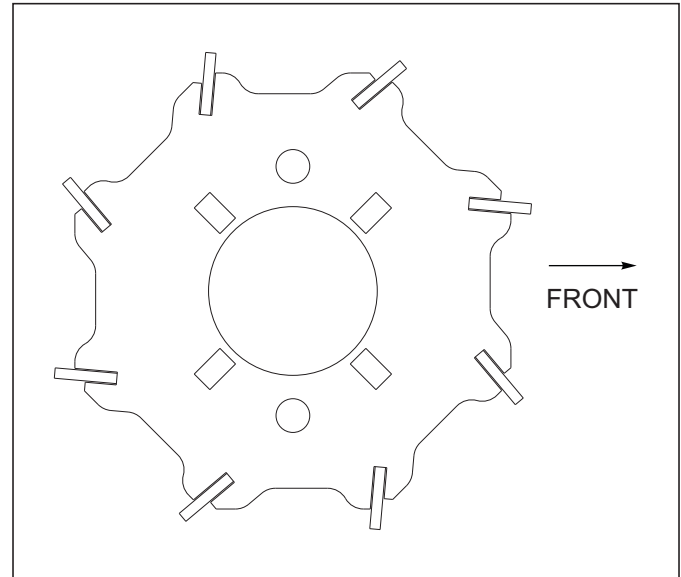

Figure 3-31: Flat Reel
7. Attach flat bar reels with angled blades as shown (See Figure 3-31)